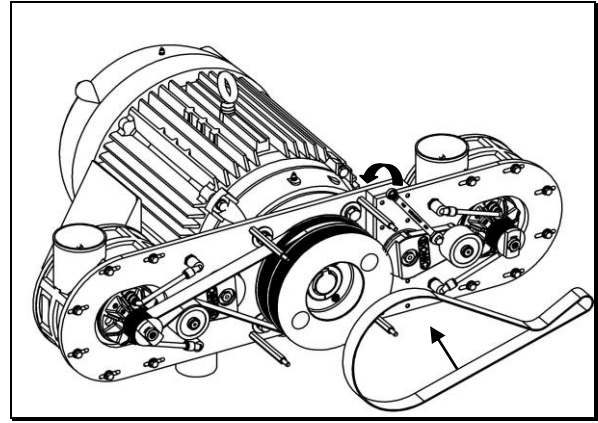
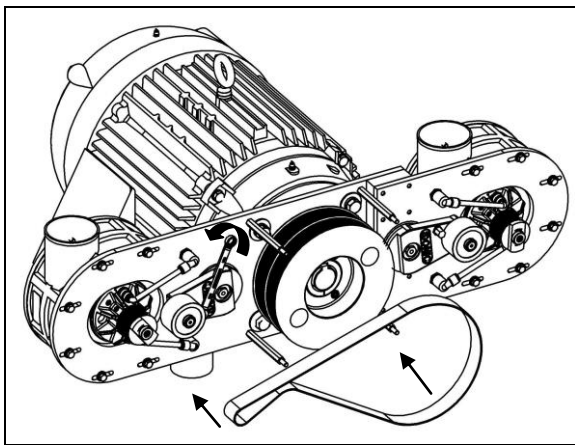

Figure 9 – Install Belt
Figure 7 - Install Belt
2. Using the 9/16 inch box-end wrench, rotate the belt tensioner counter clockwise (CCW). At the same time wrap the belt around the blower pulley, then along the right side of the idler pulley, and finally around the motor pulley. (See Figure 7 & Figure 9)